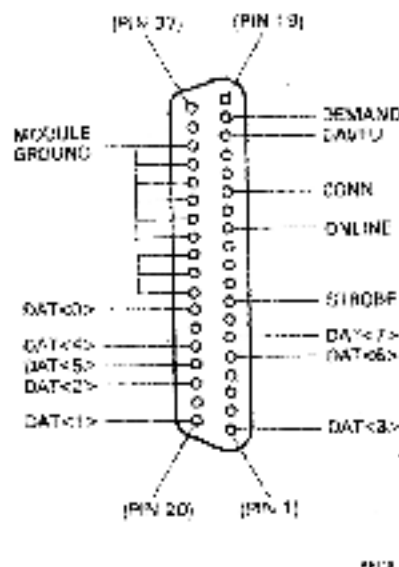

Figure 1-7 Printer Connector Detail
1.4.4.3 The Printer Interface - The printer port is a parallel interface at TTL levels. Connection to the printer is made via a 37-pin subminiature D-type connector. Figure 1-7 shows the pin configuration of the connector.